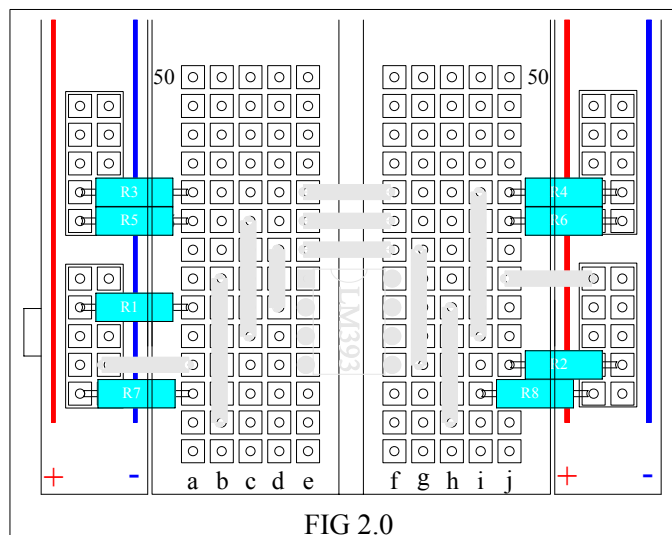

FIG 2.0
3. Step 3 - Insert the resistor by values as shown in FIG 2.0.
Insert resistors as shown in FIG 2.0